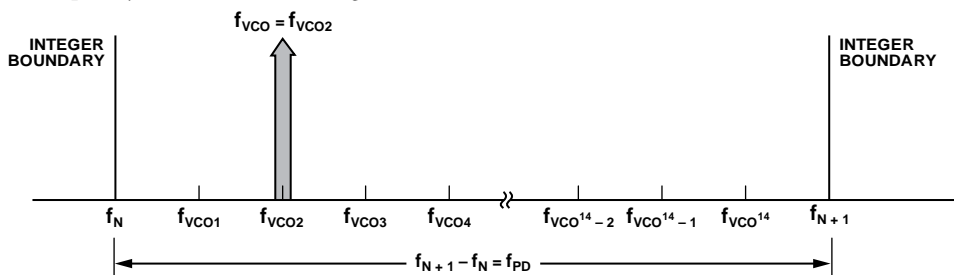

Figure 46. Exact Frequency Tuning
$f_{VCOk}$  is the channel step frequency.  $0 < k < 2^{24} - 1$ , as shown in Figure 46.
Some fractional PLLs are able to achieve these exact frequencies by adjusting (shortening) the length of the phase accumulator (the denominator or the modulus of the  $\Sigma$ - $\Delta$  modulator) so that the  $\Sigma$ - $\Delta$  modulator phase accumulator repeats at an exact period related to the interval frequency ( $f_{VCOk} - f_{VCO(k-1)}$ ) in Figure 46. Consequently, the shortened accumulator results in more frequent repeating patterns and, as a result, often leads to spurious emissions at multiples of the repeating pattern period, or at harmonic frequencies of  $f_{VCOk} - f_{VCO(k-1)}$ . For example, in some applications, these intervals may represent the spacing between radio channels, with the spurious occurring at multiples of the channel spacing.
When multiple, equally spaced, exact frequency channels are needed that fall within the same interval (that is,  $f_N \leq f_{VCOk} < f_{N+1}$ ), where  $f_{VCOk}$  is shown in Figure 46 and  $1 \leq k \leq 2^{14}$ , it is possible to maintain the same integer-N (Register 0x03) and exact frequency register (Register 0x0C) settings and only update the fractional register (Register 0x04) setting. The exact frequency channel mode is possible when Equation 16 is satisfied for at least two equally spaced adjacent frequency channels, that is, the channel step size.
To configure the HMC832A for exact frequency channel mode, initially program the integer (Register 0x03) and the exact frequency (Register 0x0C) for the smallest  $f_{VCO}$  frequency ( $f_{VCO1}$  in Figure 46), as follows:
- Calculate and program the integer register setting Register 0x03 =  $N_{INT} = \text{floor}(f_{VCO1}/f_{PD})$ , where  $f_{VCO1}$  is shown in Figure 46 and corresponds to the minimum channel VCO frequency. Then, the lower integer boundary frequency is given by  $f_N = N_{INT} \times f_{PD}$ .
where  $f_N = \text{floor}(f_{VCO1}/f_{PD})$ , and  $f_{VCO1}$ , as shown in Figure 46, represents the smallest channel VCO frequency that is greater than  $f_N$ .
4. To change from Channel 1 ( $f_{VCO1} = 2800.2 \text{ MHz}$ ) to Channel 2 ( $f_{VCO2} = 2800.3 \text{ MHz}$ ), only Register 0x04 needs to be programmed, as long as all of the desired exact frequencies,  $f_{VCOk}$  (see Figure 46), fall between the same integer-N boundaries ( $f_N < f_{VCOk} < f_{N+1}$ ). In that case,